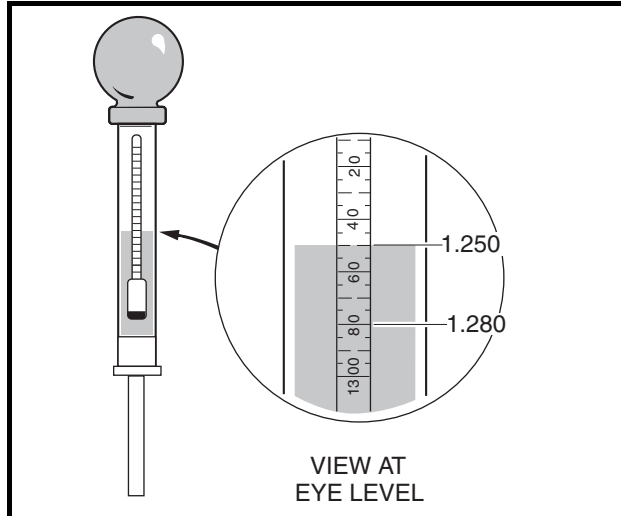

Figure 11-6 Hydrometer Test
A hydrometer (CC P/N 1011478) measures the specific gravity. The higher the specific gravity, the higher the state of charge of the battery. A fully charged battery should read between 1.250 and 1.280 at 80 °F (27 °C). Never add acid to the battery to obtain a higher specific gravity (**Figure 11-6, Page 11-12**). See following **CAUTION**.
6. Hold the hydrometer vertically, ensuring that the float is not contacting the sides of the glass tube. Hold the hydrometer at eye level and read the scale at the level of electrolyte (**Figure 11-6, Page 11-12**).